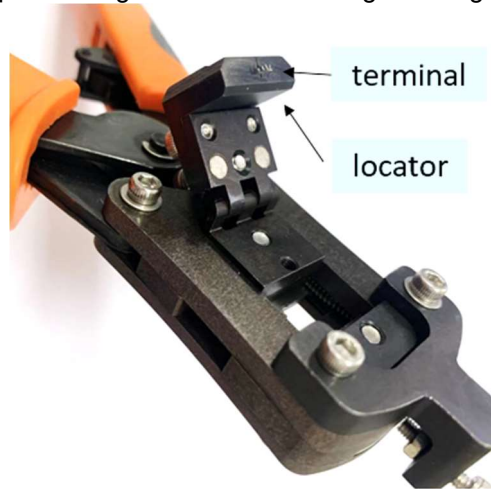

Figure 3
7.4 While holding the locator button in, load the terminal into the proper nest opening in the locator based on the wire gauge or terminal type markings on the hand tooling. See Figure 3.